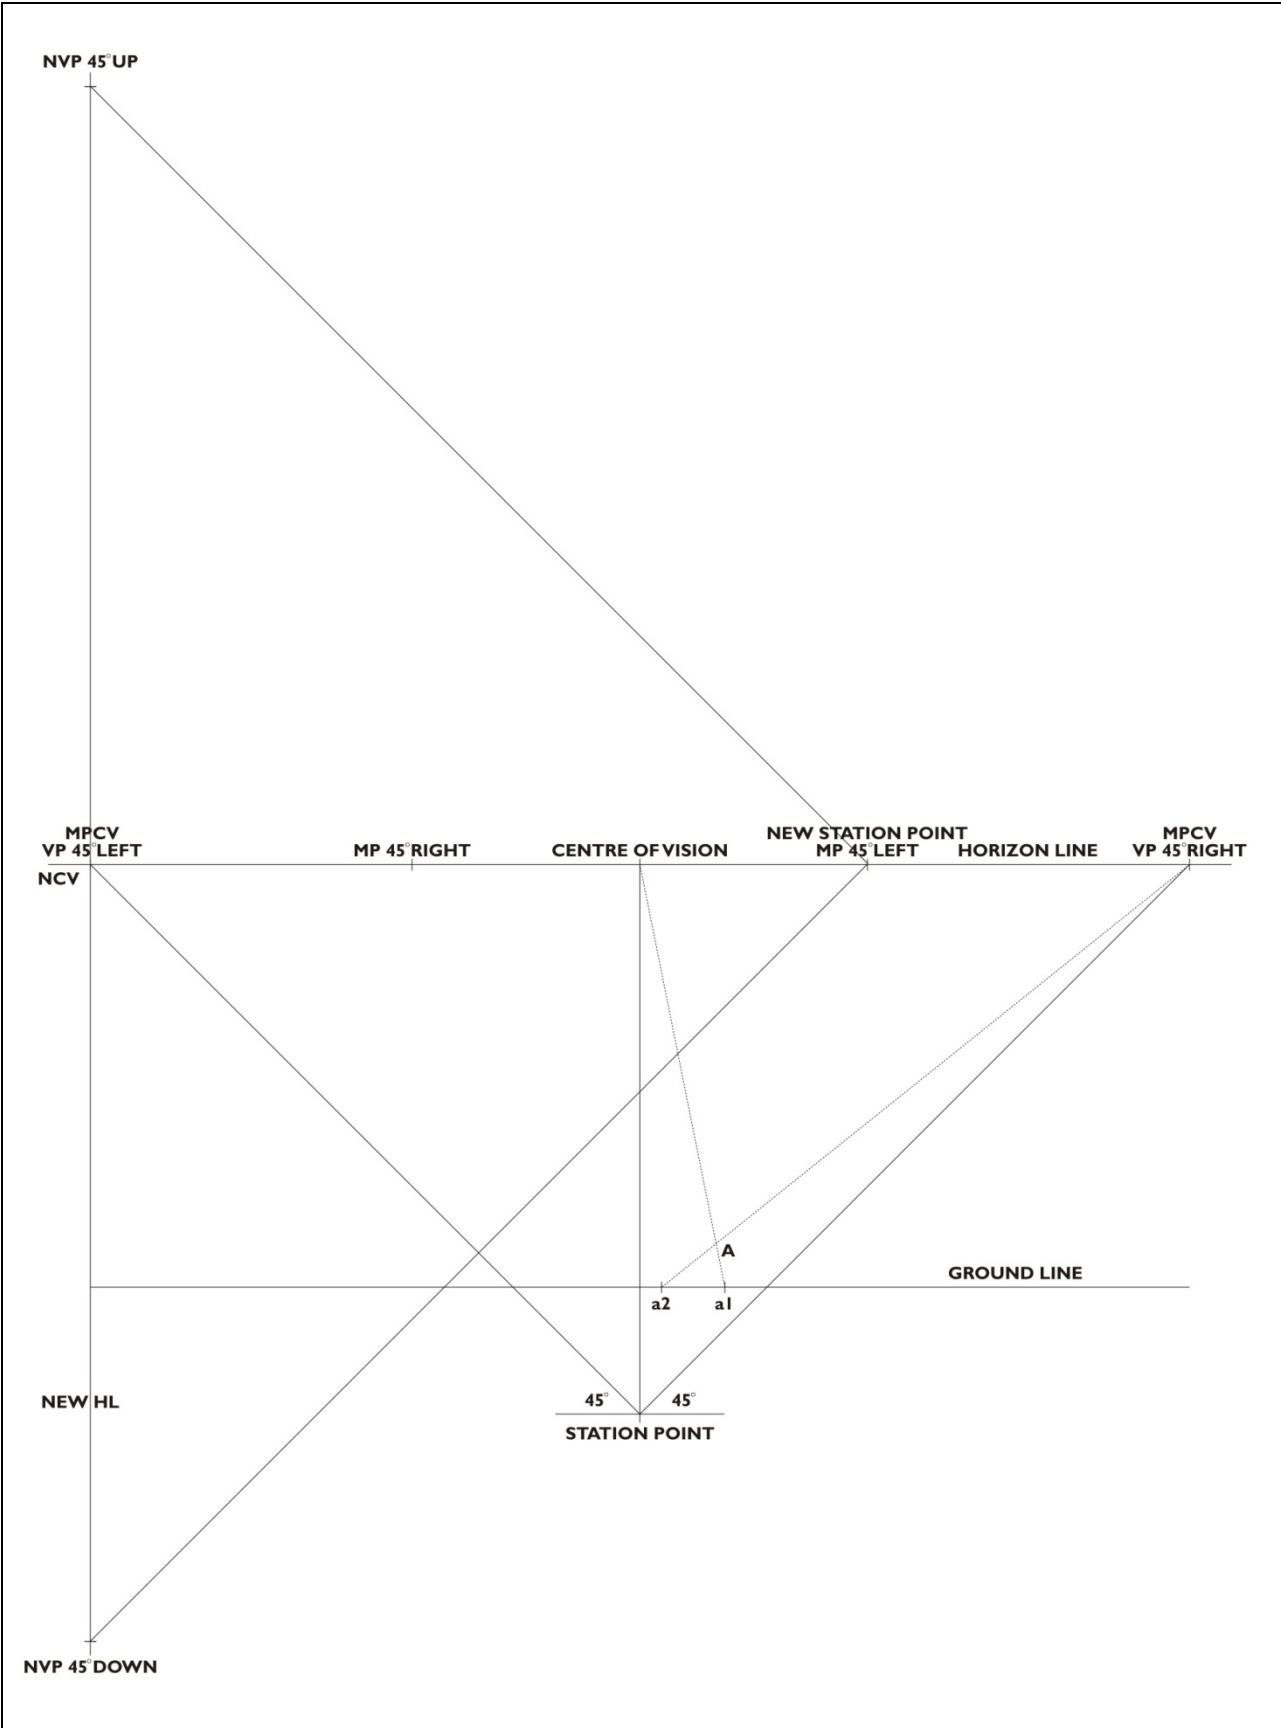

Figure 4.6 Three-point perspective establish Point A
1. The base of the box is situated on the ground 20 mm to the left of the Centre of Vision and 15 mm behind the Picture Plane. Refer to Figure 4.6 for information.